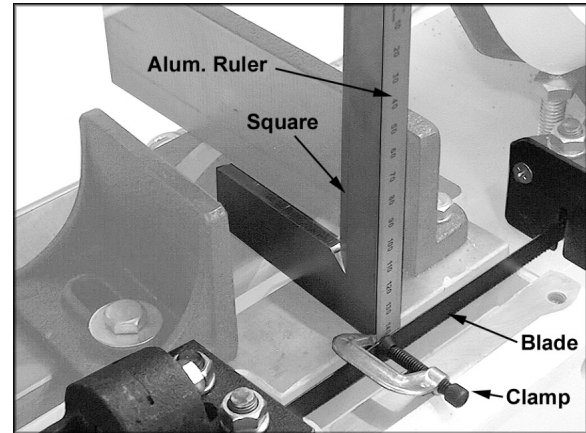

Fig. 16a
2. First “extend” the surface of the blade by clamping a straight, flat object to the blade. (Figure 16a uses a small, lightweight aluminum ruler.) Use a lightweight clamp.